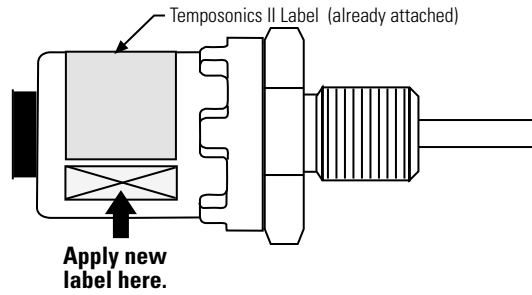

Figure 2
9. Once cover is secure, attach the provided label as shown in Figure 2.